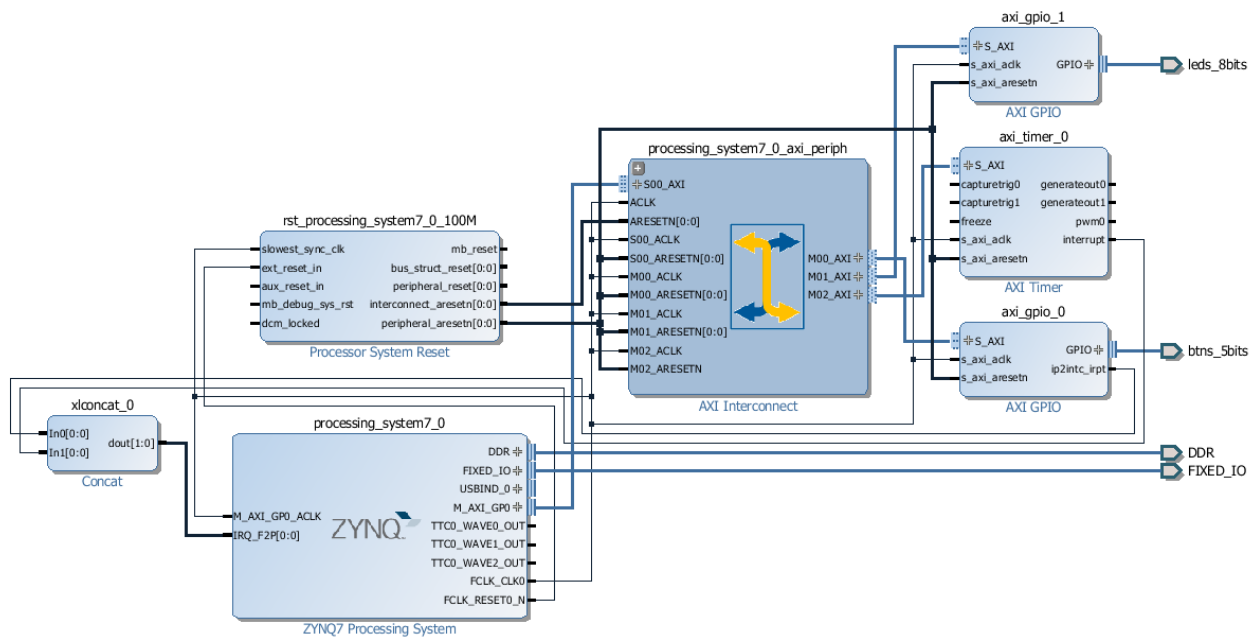

Figure 2.29: Complete system with multiple interrupt sources
- (g) Remove the connection to `IRQ_F2P[0:0]` on the Zynq PS by clicking it and pressing DELETE. Connect the output from the **Concat** block, `xlconcat_0` to this instead. Then, connect the interrupt request from the GPIO to `In0[0:0]` and the interrupt from the timer to `In1[0:0]`, creating a shared interrupt signal that is passed to the PS. Your block diagram should be similar to Figure 2.29.